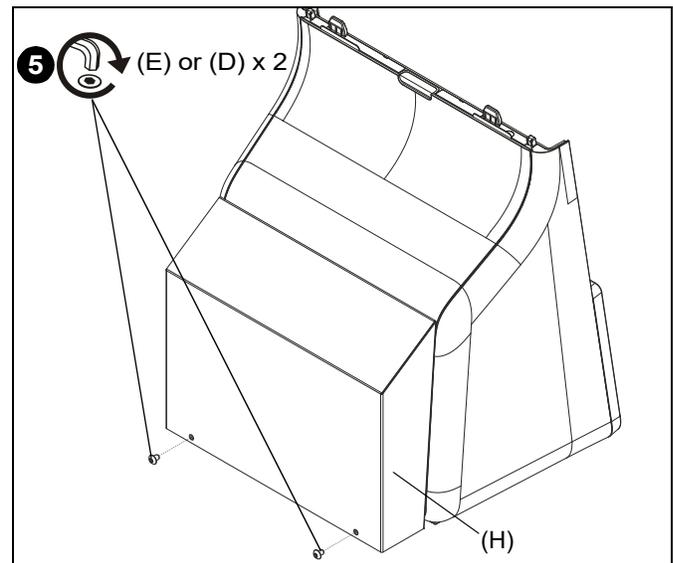

Figure 3
5. Use two #10-24 x 3/8" button head cap screws (E) or two #10-24 x 1/4" security screws (D) to secure cover (B) to kiosk bracket (A). (See Figure 3)